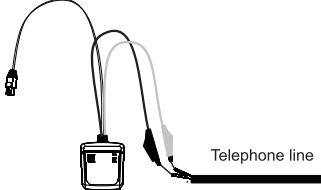

Figure 4 Indicating line conditions
8.Indicating line conditions (Checking polarity)(see Figure 4)